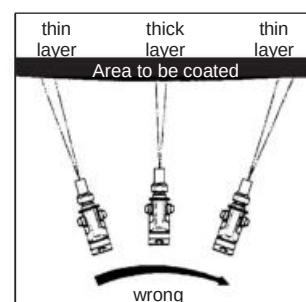

Fig. 28: Do not wave!
- Ensure even speed and move the spray gun parallel to the area to be coated. Waving the spray gun causes irregular coating (Fig. 28).